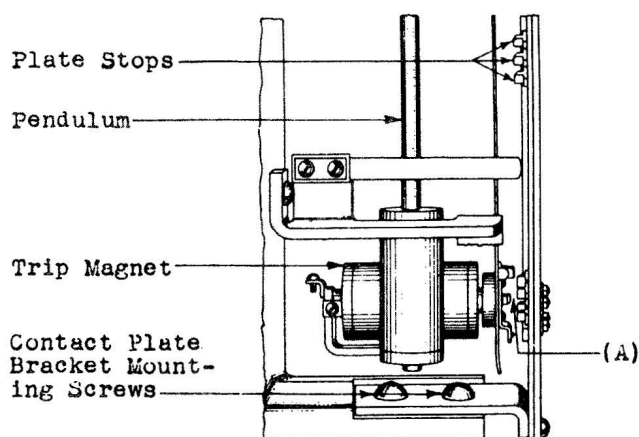

Fig. 16 - Gaps Between Contact Arm Stops and Plate Stops
2.13 Gaps Between Contact Arm Stop and Plate Stops - Fig. 16 (A): With the contact arm held magnetically against the trip magnet, the gap between the first, fourth from the left and the last stops on the contact plate and the stop on the contact arm shall be: